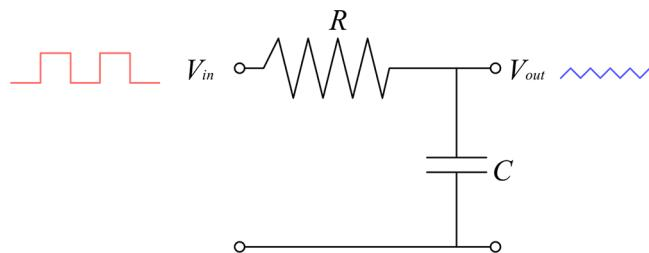

Figure 24: A typical low pass filter implemented with a resistor and a capscitor
An output square wave generated with the PWM technique can be filtered to generate a smoothed signal, that is an analog signal that has a reduced *peak-to-peak* voltage (V_{pp}). A *Resistor-Capacitor* (RC) *low-pass* filter (see **Figure 24**) is able to cut-off all those AC signals having a frequency higher than a given threshold. The general rule of thumb of RC low-pass filters is that the lower is the cut-off frequency the lower is the V_{pp}^{34} . An RC low-pass filter uses an important characteristic of capacitors: the ability to block DC currents while allowing the passing of AC ones: given the R/C time constant formed by the resistor-capacitor network, the filter will short to ground those AC signal with a frequency higher than the RC constant, allowing to pass DC component of the signal and lower frequency AC voltages.